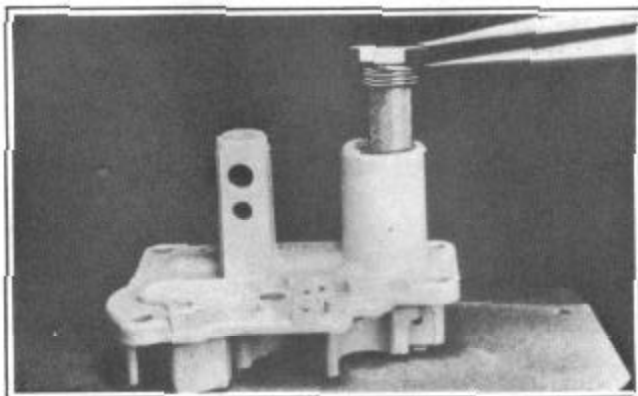

FIGURE 22
3. Install strainer and strainer nut and gasoline assembly, Figure 22.